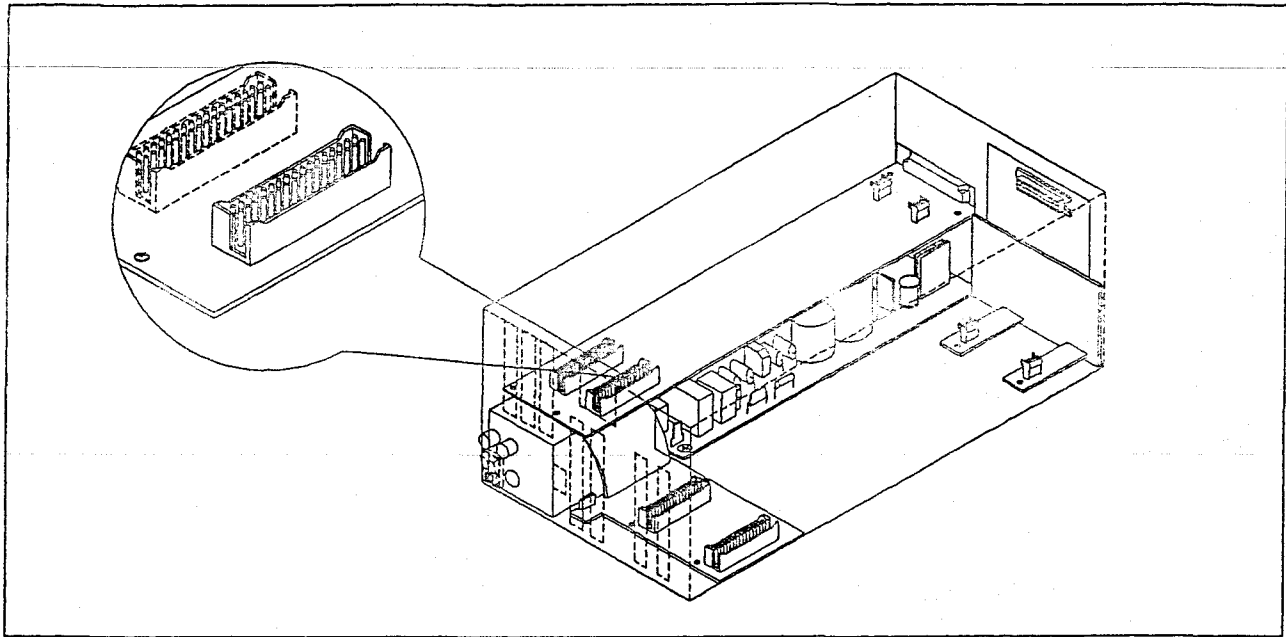

Figure 2-2 - Card installation
- Carefully insert the card into its slot (see Fig. 2-2)